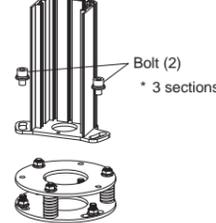

Fig. 7
- Temporarily tighten the included Bolts (2) to fix the Floor mounting column to the Mount-column adjustable base. (Fig. 7)